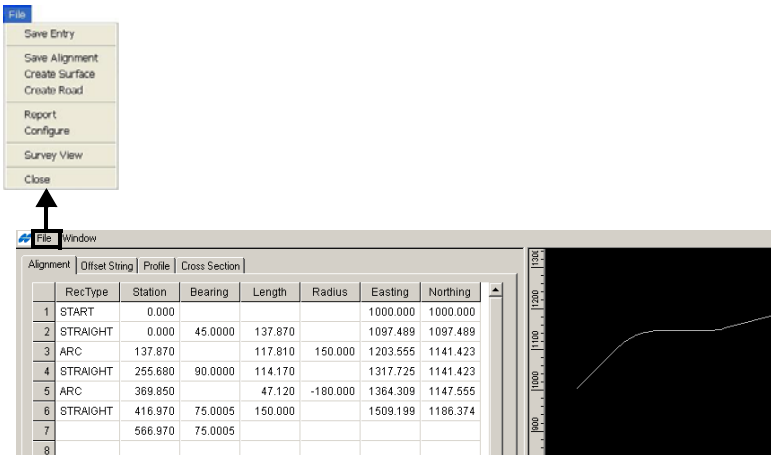

Figure 13-3. Manual Road Entry View Parameters
- **New** – press to create and open the dataset for a new road. The first road will be allocated the default name *ALIGN1*. This can be renamed later if you prefer. The *manual road entry view* dialog box appears (Figure 13-3 on page 13-3).
The Road Entry view consists of two pull-down menus, four pages for entry of different types of road data, and a context menu that displays by right-clicking the mouse (Figure 13-3 on page 13-3).
Alignment tab All roads that are manually defined by this function starts with the definition of a horizontal alignment. To check these options, click **File ▶ Configure** from the *manual road entry view* dialog box (Figure 13-3 on page 13-3).
As data is entered, the station distance and the Easting/Northing coordinates will be computed. The window to the right graphically displays the alignment entered (Figure 13-3).
1. On the *manual road entry view* (Figure 13-3 on page 13-3), click **File ▶ Save Entry** to save the entered data (Figure 13-7).
2. On the *manual road entry view* (Figure 13-3 on page 13-3), click **File ▶ Save Alignment** to save alignment data to Survey View. The alignment is created with appropriate data applied to each horizontal intersection point (Figure 13-7).
To create a surface, click **File** ► **Create Surface** from the *manual road entry view* dialog box in Survey View (Figure 13-3 on page 13-3).